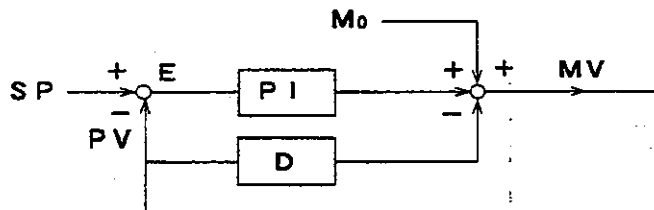

Figure A.1 PID Instruction Open Loop
- 3) The confirmation tests are open loop tests. The block diagram is shown in *Figure A.1* below.